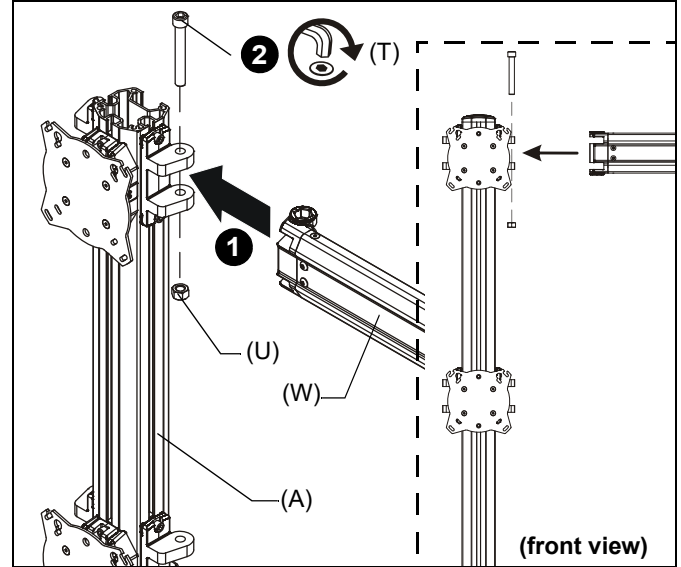

Figure 2
2. Fasten arm in place using one 3/8-16 x 2-3/4" socket head screw (T) and one 3/8" nut (U). (See Figure 2)